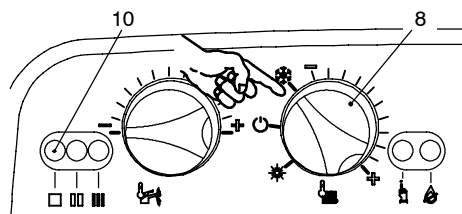

Fig. 2.4
- 2 Turn on the electricity supply to the boiler, switching on the fused spur isolation switch. The appliance operation light 10 (Fig. 2.4) will flash every 4 seconds (stand-by condition).
- 3 If the boiler is to be used for c.h. and d.h.w. position the function selector 8 as in Fig. 2.4. The appliance operation light 10 will flash every 2 seconds (operating boiler).